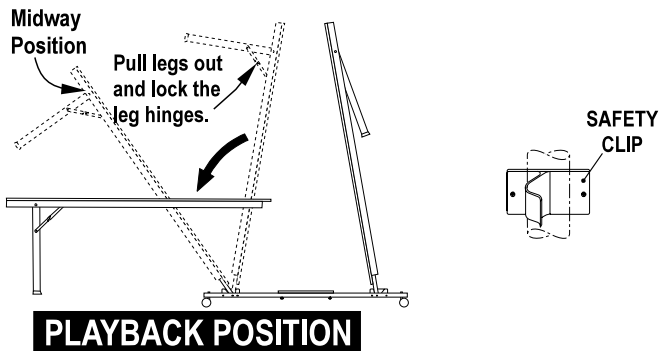

Figure 3
2. Hold center of top edge. Gently pull outward to midway position. Continue to pull until disengaged from safety clips and legs rest on the floor. Do not leave table partially opened at midway position. See Figure 3.